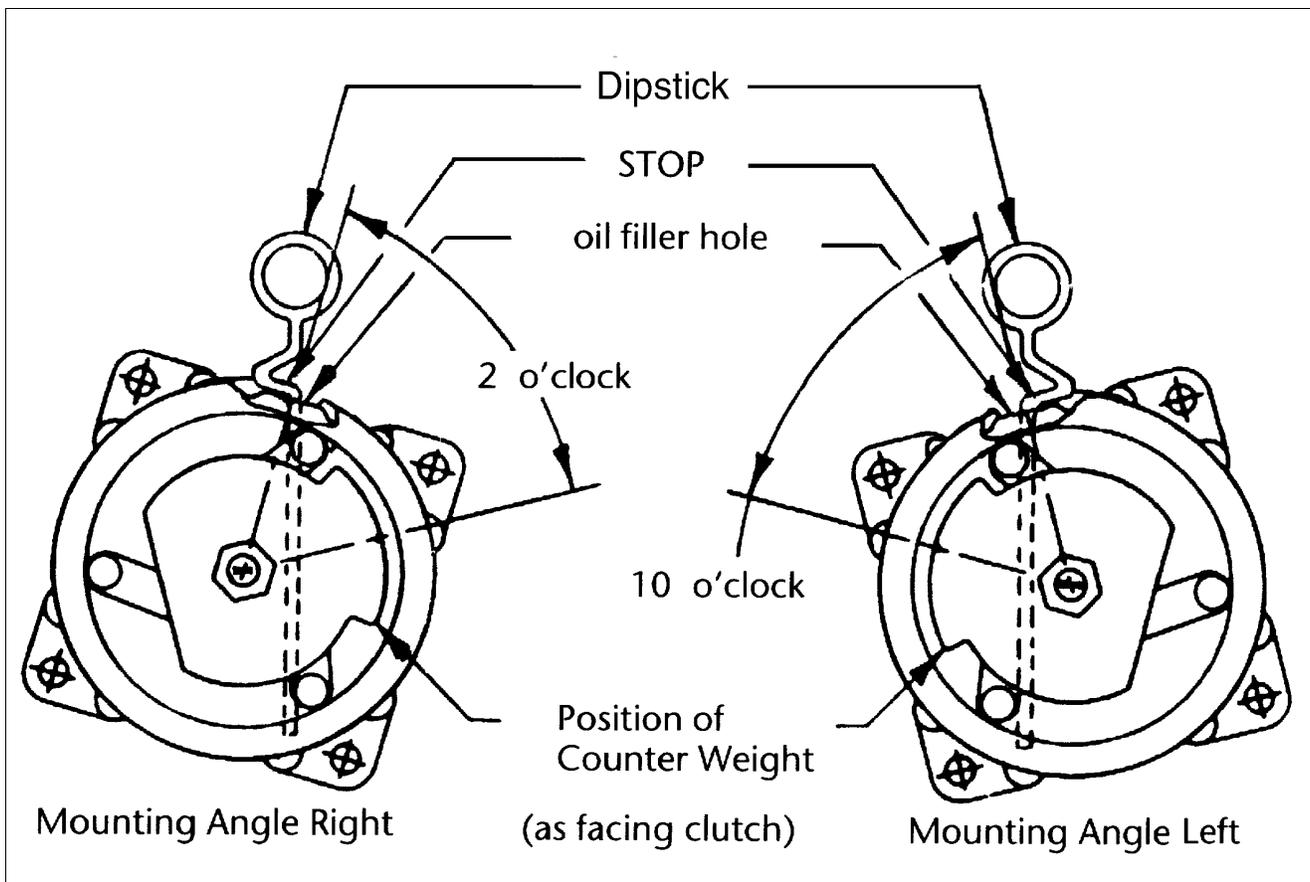

Figure 21-12. Sanden Compressor Oil Measurement
- (e) Remove oil filler plug. Referring to Figure 21-12, determine if the compressor is mounted with a right or left cant and rotate the counterweight located on the front of the clutch until it is at the angle shown relative to the oil filler hole.
- (f) Insert the dipstick to its "Stop" (the bend near the top of the dipstick) as shown in Figure 21-12. Ensure the point of the bend is oriented appropriately for the cant of the compressor mount.